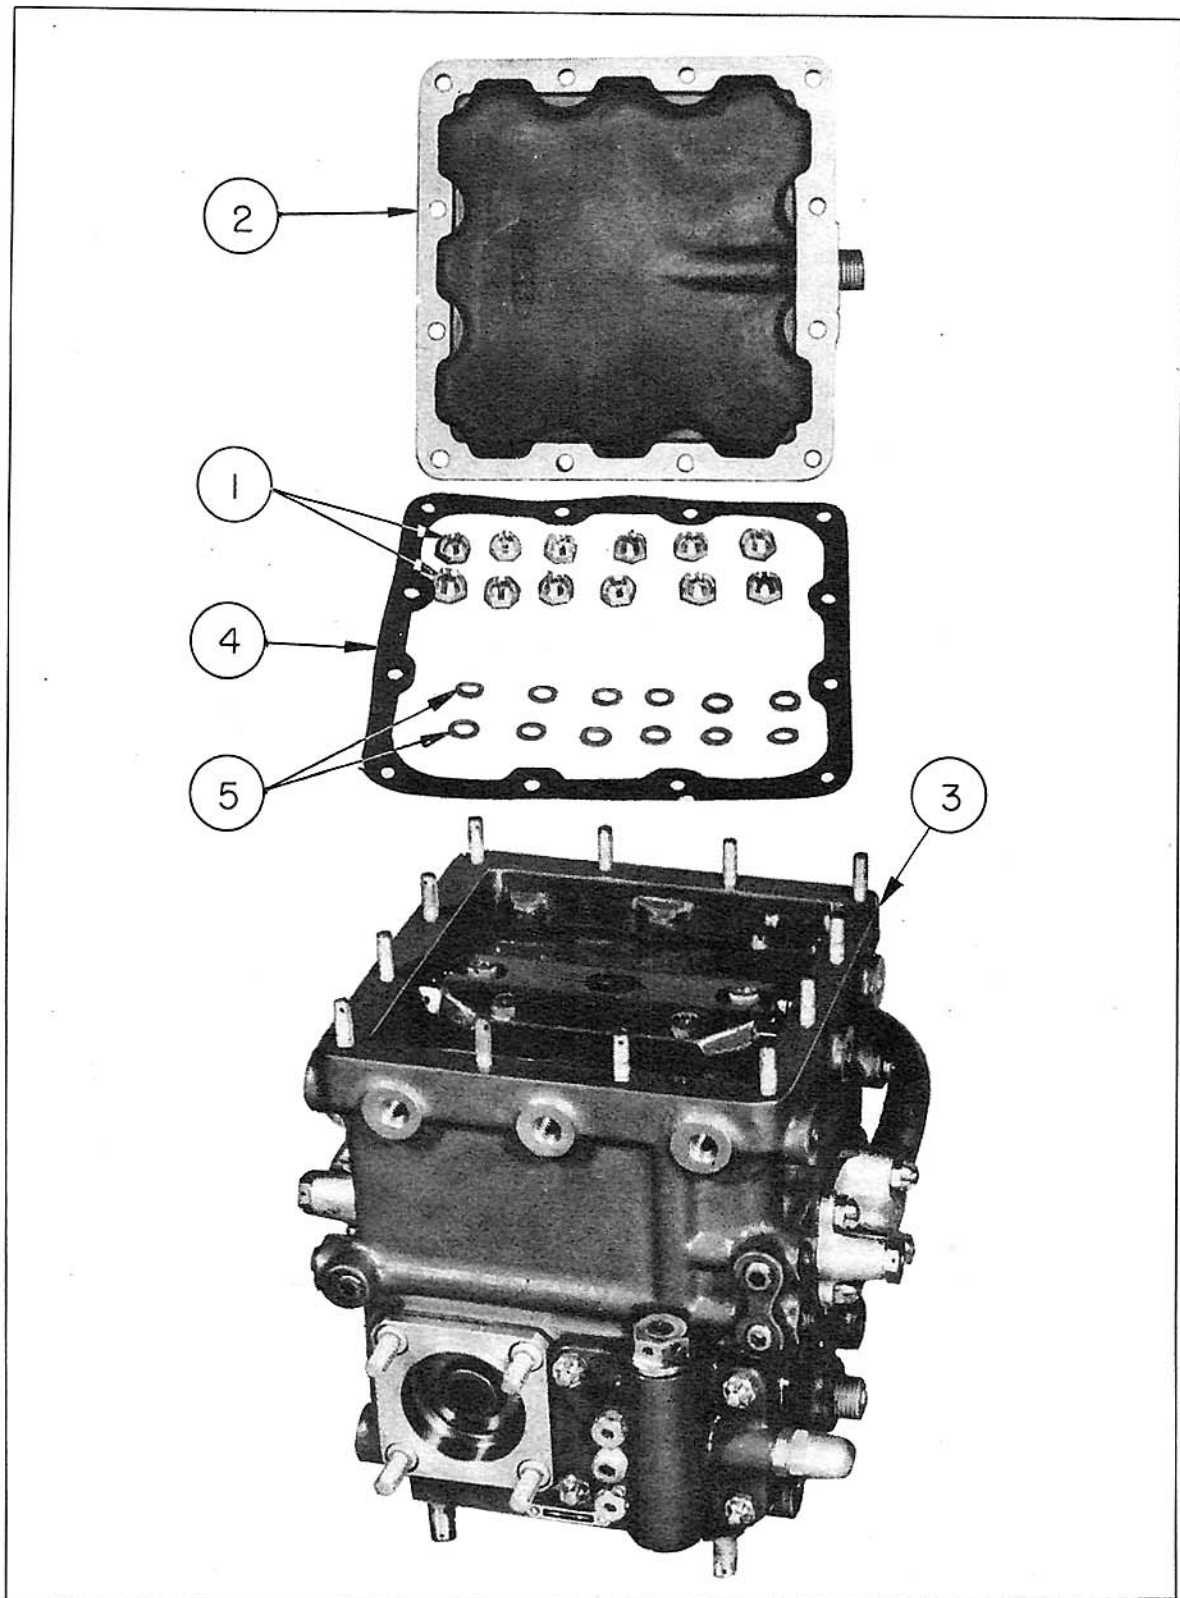

FIGURE 21
1. Rear Cover (Fig. 21)
2. Rear Cover (See Figure 21.) - a. Remove the safety wiring and 12 nuts (1) which hold the rear cover (2) to the main housing (3) and then lift the cover off.
12. Rear Cover (Fig. 21)
13. Rear Cover (See Figure 21.) - a. Place the gasket (4) over the studs in the housing. Set the rear cover (2) into place then put on 12 washers (5) and tighten down with the 12 nuts (1) and safety wire them in pairs.